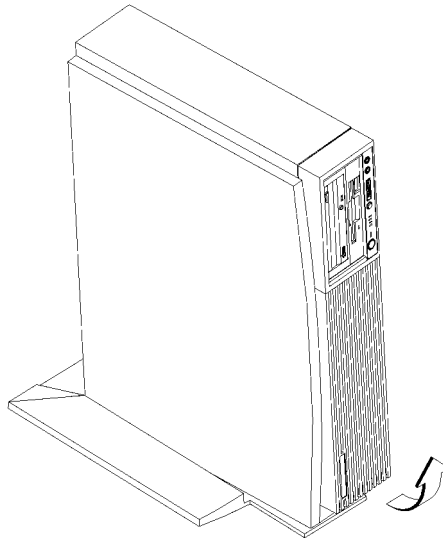

Figure 29 **Removing the Floor Stand**
- 5 If installed, remove the floor stand as shown in Figure 29.